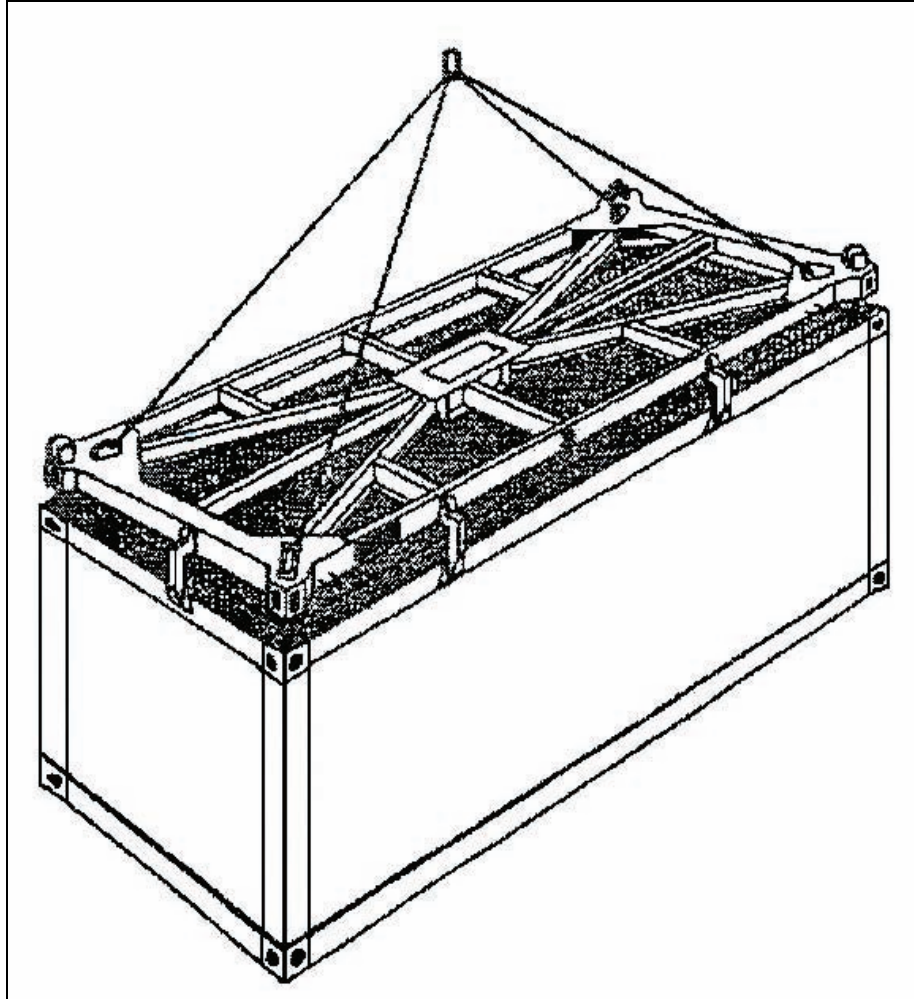
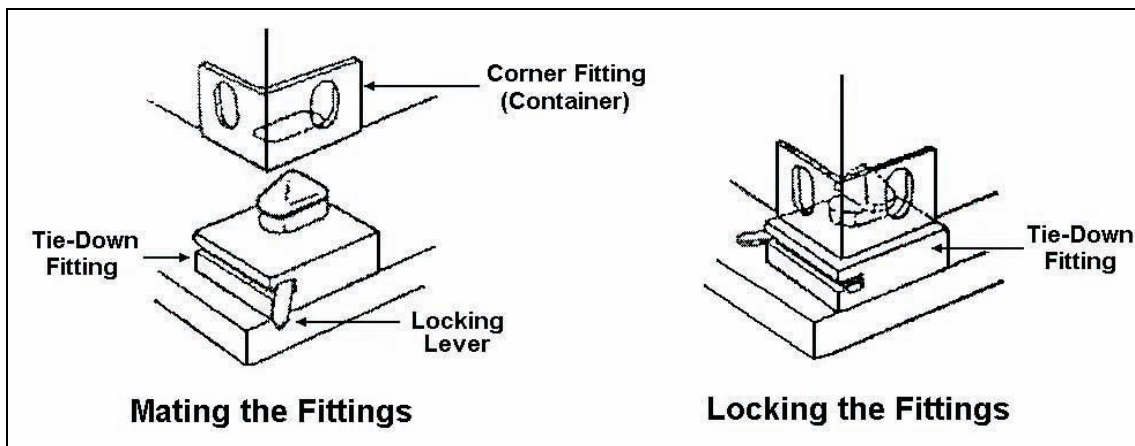

Figure 3-47. Attaching Semiautomatic Toplift Spreader Device to the Container
Figure 3-48. Securing the Device
- e. Attach semiautomatic toplift spreader device to the container (see Figure 3-47).
- (1) Attach the toplift spreader to the cargo hook.
- (2) Signal the winch operator to hoist the toplift spreader.
- (3) Signal the winch operator to lower the spreader device, which has tag lines attached, onto the container.
- (4) Secure the device to the four corners of the container (see Figure 3-48).
- (5) Engage twist locks.
- (6) Disengage the container bottom twist locks.
- (7) Signal the winch operator to hoist the container.